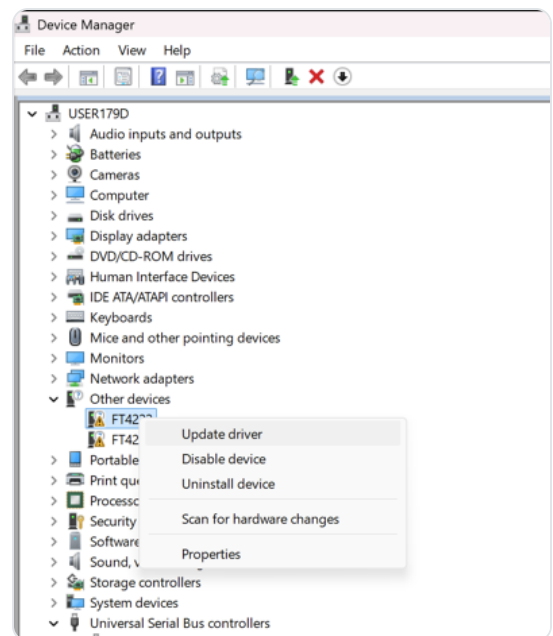

Figure 2 · Right-click the FT4222 device and select Update driver
- 3 Locate **FT4222** in the device list. Right-click it and select **Update driver** (Figure 2).